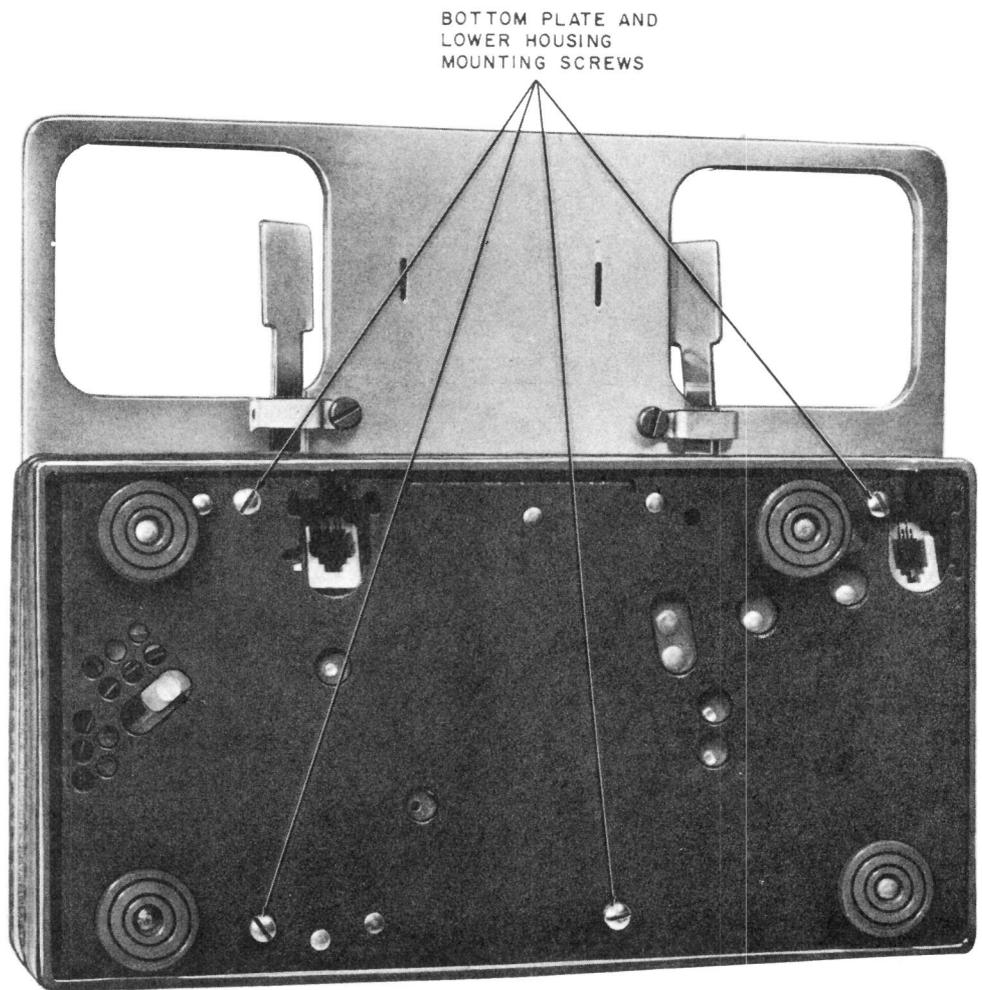

Fig. 10—930A or 2930A Telephone Set, Bottom View
- (1) Remove handset and mounting cords from the bottom of the telephone set.
- (2) Remove the four bottom plate and lower housing mounting screws (Fig. 10).
- (3) Remove bottom plate and lower housing.
- (9) Reassemble lower housing and bottom plate to handset mounting plate (Fig. 10).